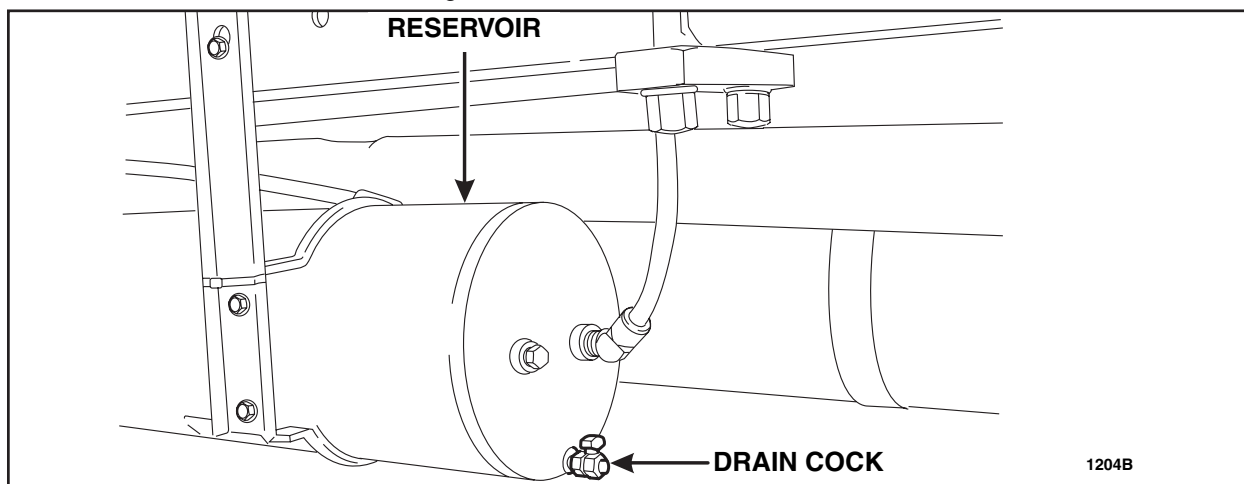

FIGURE 2
- For vehicles without automatic moisture ejector valves, open the drain cocks on the primary and secondary reservoirs. See Figure 2.